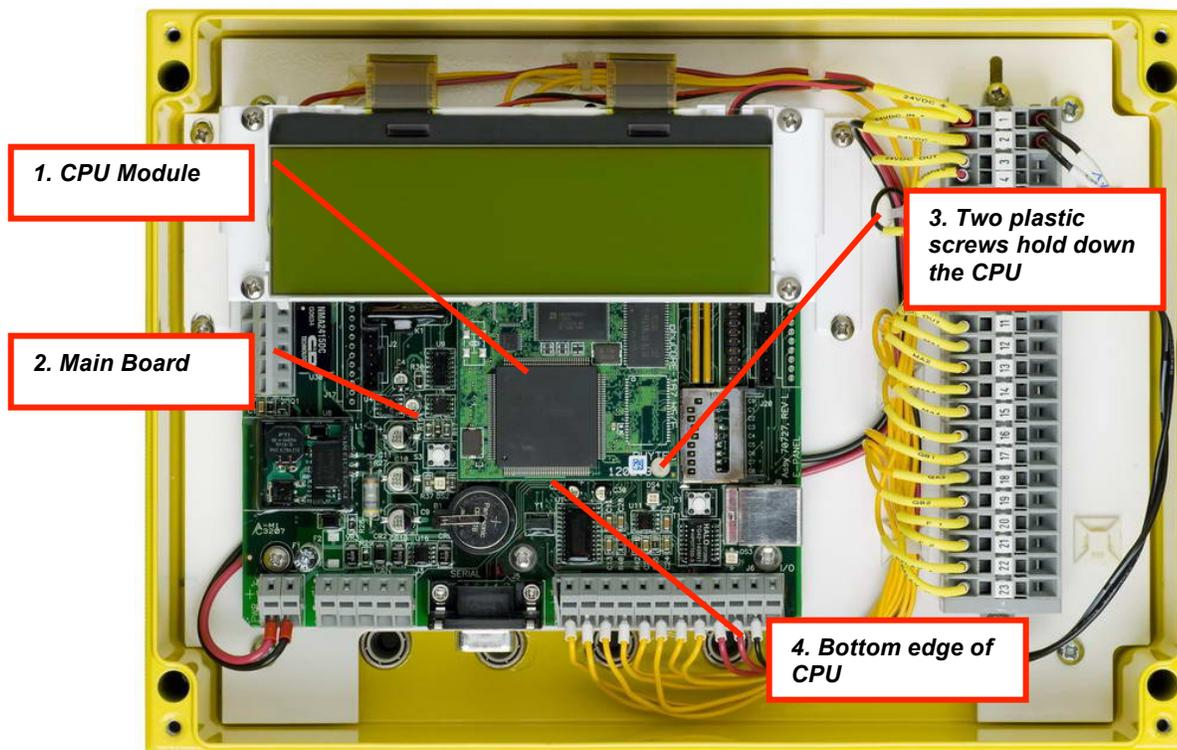

Figure 1
8. Identify the Main board and the CPU module inside the Rapidlogger using Figure 1 as a reference
13. Now take the new CPU module and rotate it so that the orientation of the module is the same as that shown in the Figure 1.